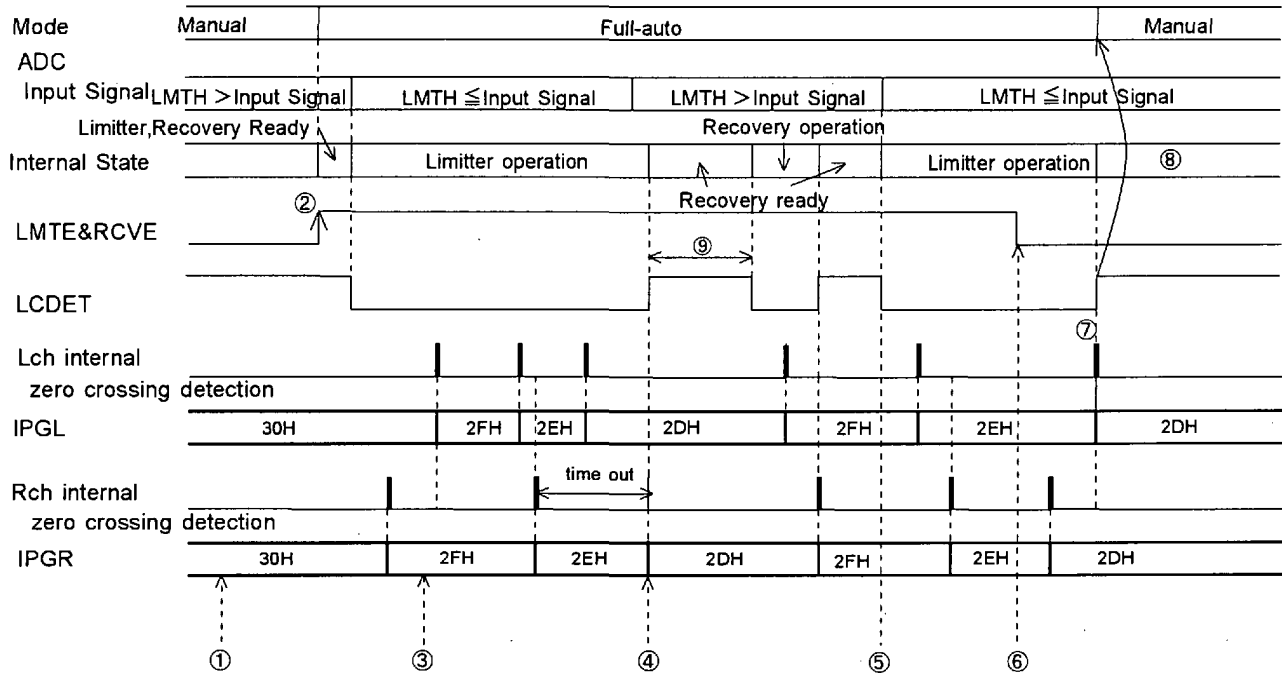

Figure 9 . Control example of full-auto mode operation (LMAT=RATT: 1 step, ZENM=ZELM="1")
- ② WR(LMTE=RCVE="1"): After the registers concerned in the auto limiter operation is set up and confirming the zero crossing flags(ZFIPL, ZFIPR)="1", LMTH and RCVE are set "1".
- ③ WR(IPGA="31H"):As the operation is full-auto mode, writing by uP is ignored.
- ④ The ready of recovery starts.
- ⑤ As the input signal of ADC exceeds LMTH, the recovery operation (in the figure, recovery ready) is discontinued and the limiter operation starts.
- ⑥ WR(LMTE=RCVE="0"):The full-auto mode operation is completed.
- ⑦ In Figure 9 , since "0" is written to LMTE& RCVE during the ATT operation, the operation changes to the manual mode after completing ATT operation. After confirming LCDDET="1", it is possible to change the each register set-up. If LMTE&RCVE are set "0" during the full-auto mode operation, LCDDET becomes "1" after the max "1" ATT/GAIN operation is completed by internal state.
- ⑧ In this case, the input signal of ADC exceeds LMTH, the auto limiter does not operate because of LMTE=RCVE="0".
- ⑨ After the limiter operation is completed, the AK4516A waits for the time set by WTM1-0. If the input signal does not exceed (LMTH - 2dB), the recovery operation is executed. After the waiting time finishes the next waiting time starts immediately. In recovery ready, the waiting timer is reset under the condition of (LMTH - 2dB) ≤Input Signal<LMTH. And the timer starts under the condition of (LMTH - 2dB)>Input Signal.